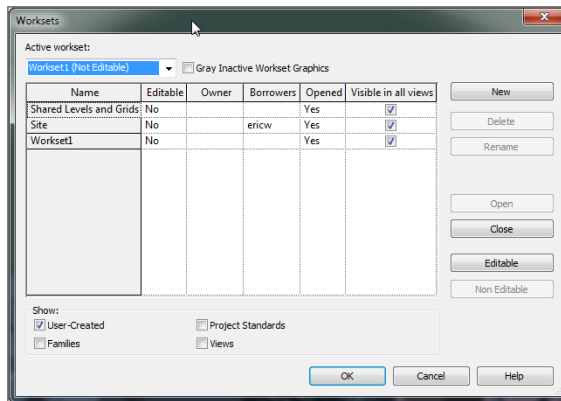

FIGURE 22.12: Borrowing a workset
4. In the Worksets dialog, notice that you're now borrowing the Site workset, as shown in Figure 22.12. Click OK.